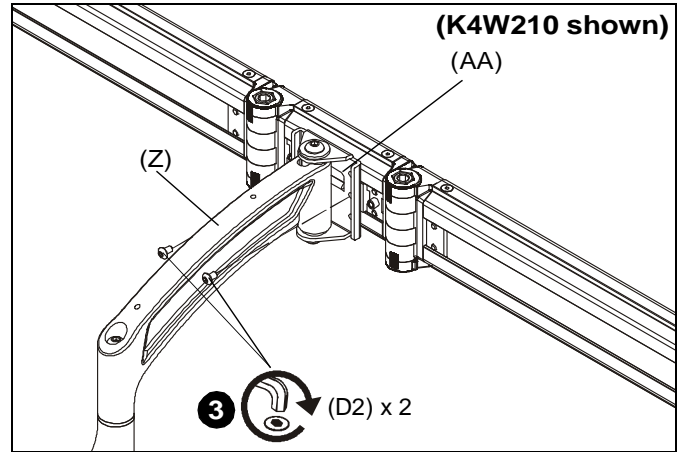

Figure 7
3. Use two #10-32 x 3/8" button head cap screws (D2) to secure arm assembly (Z) to array center (AA or BB). (See Figure 7)